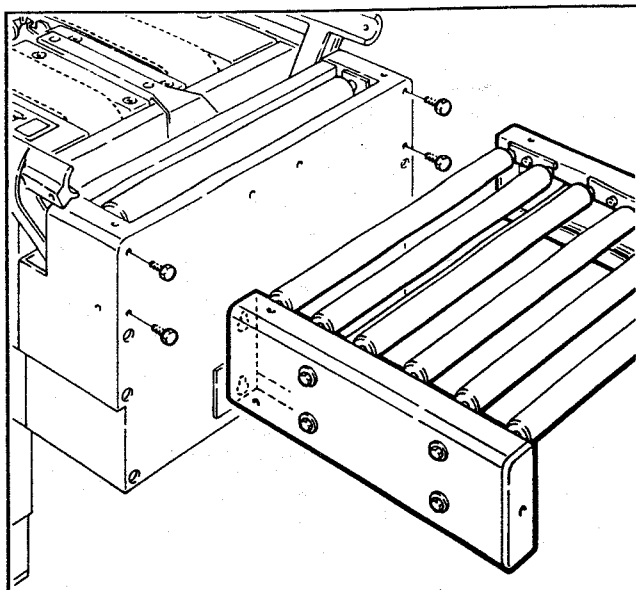

Figure 2-4 - Infeed Conveyor
3. To assemble the infeed conveyor, refer to figure 2-4 and locate four bolt holes on the infeed end of the case sealer frame.